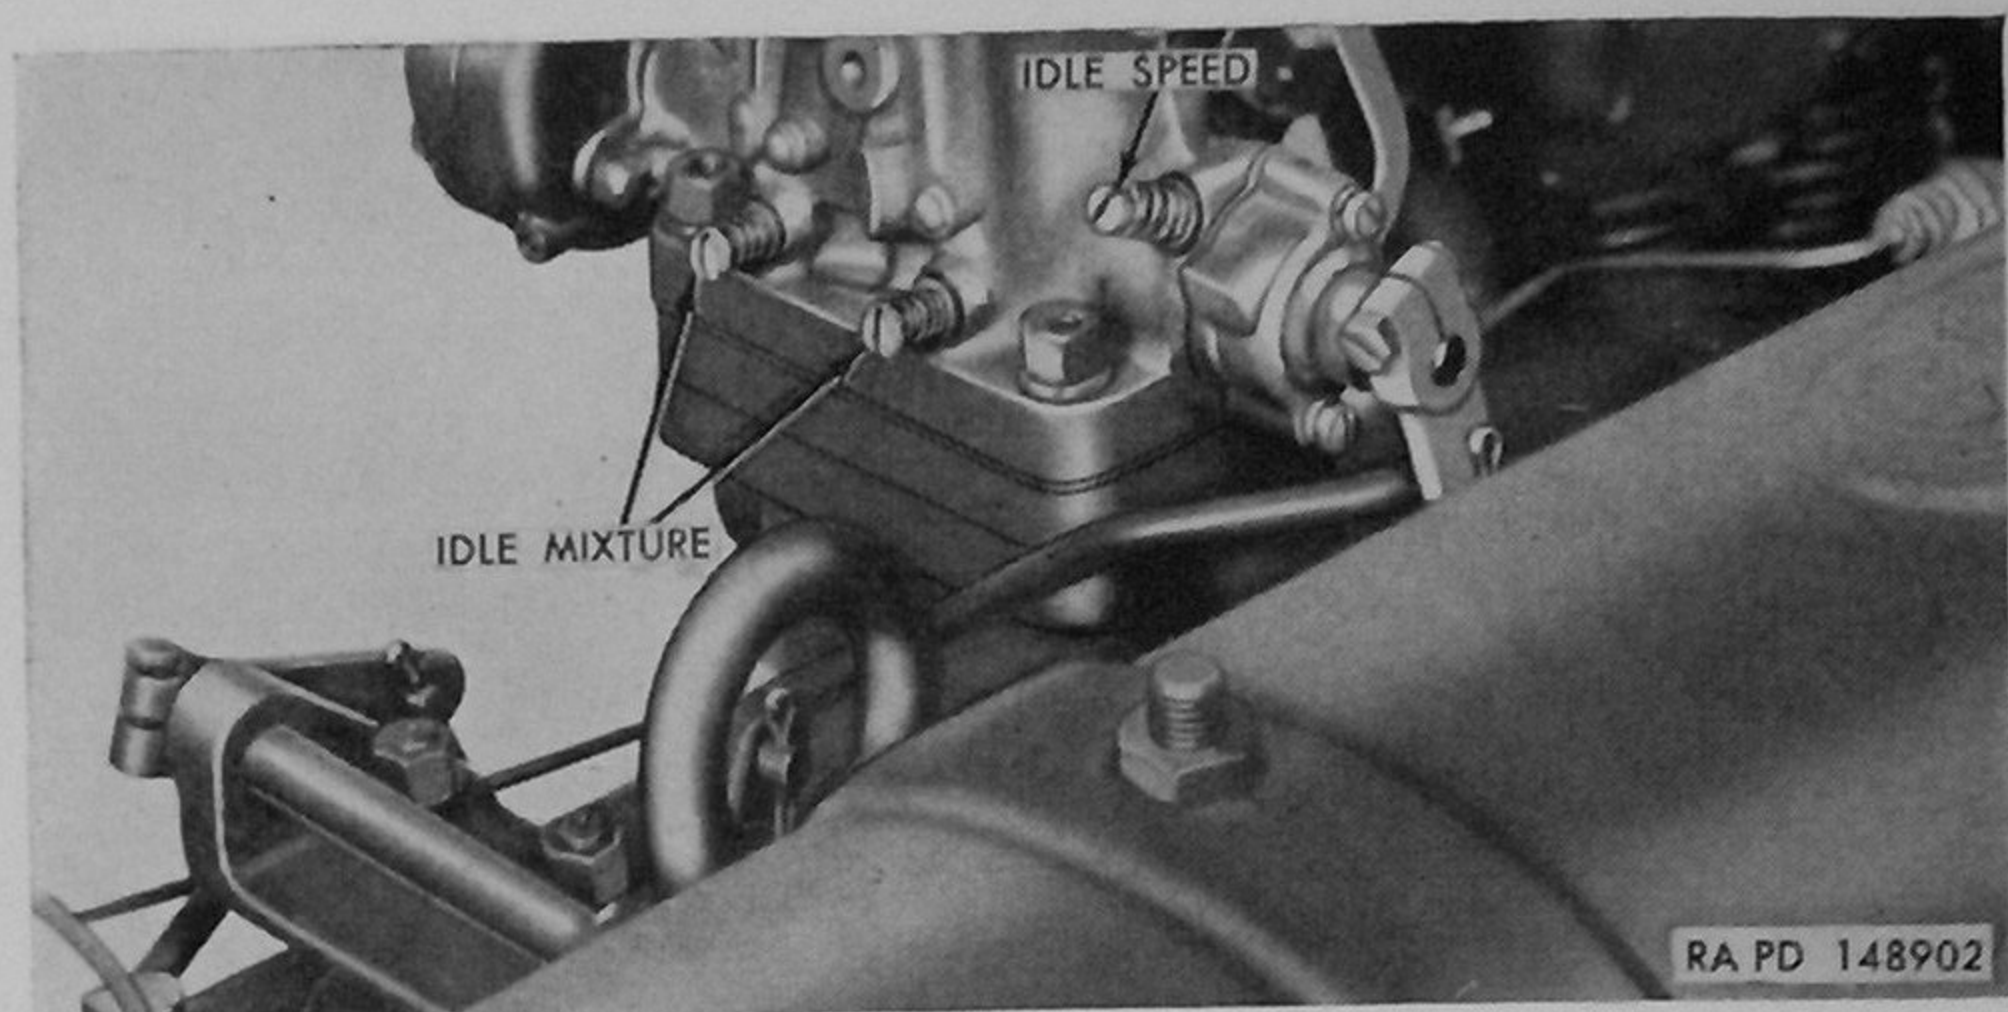
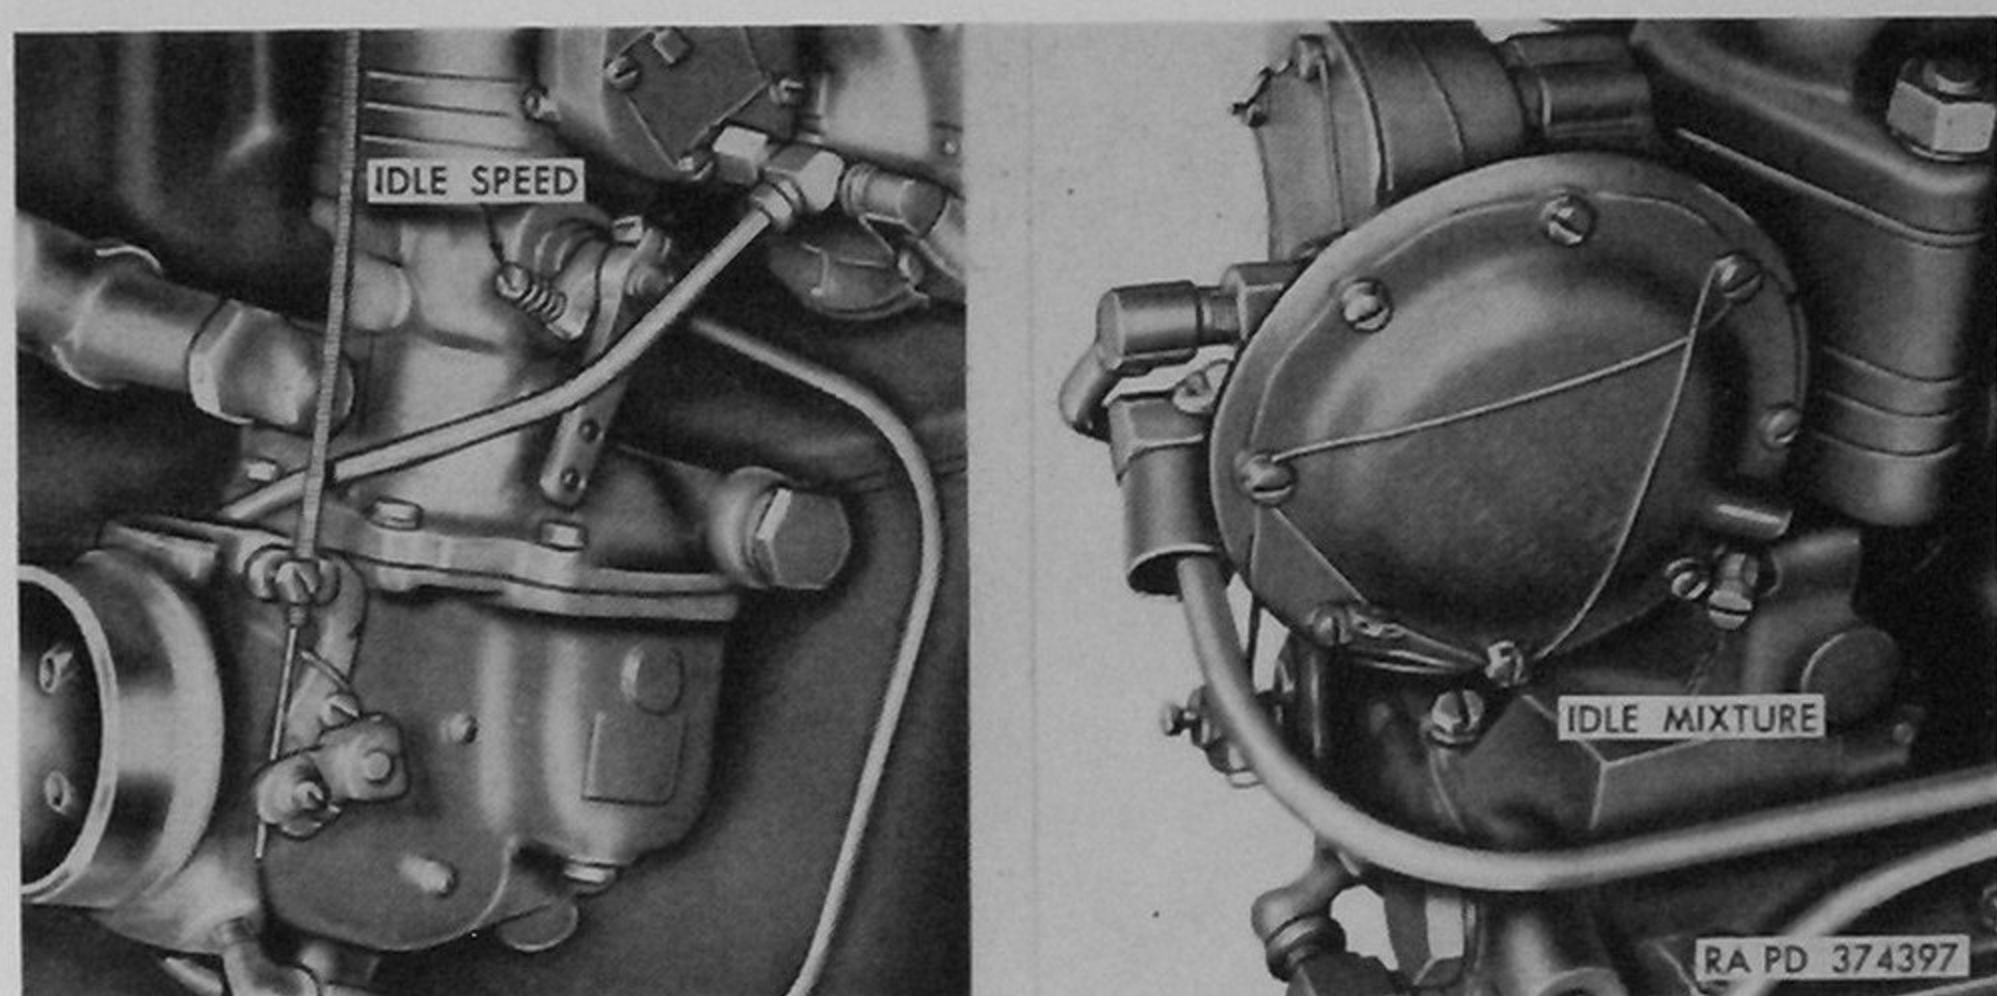

Figure 188. Location of carburetor idle speed and mixture adjusting screws—engine assemblies 7411599 and 8329440.
Figure 189. Location of carburetor idle speed and mixture adjusting screws—engine assembly 8726920.
d. *Carburetor Adjustment.* One idle speed or mixture (adjustment) screw (fig. 188 or 189) is provided at carburetor for setting idle speed. Idling mixture is adjusted by two screws (fig. 188) on engine assemblies 7411599 and 8329440 or by one screw (fig. 189) on engine assembly 8226920. Adjust in the following manner.
- (1) *Idling speed.* Turn idle speed (adjusting) screw until engine idles at 375 r.p.m.
- (2) *Idling mixture.*
- (a) *Engine assembly 7411599 or 8329440.* Turn idle mixture screws (fig. 188) one at a time to obtain highest reading on vacuum gage with steady indicator. Check idle speed on tachometer. Adjust idle speed if necessary ((1) above).
(b) *Engine assembly 8726920.* Turn idle mixture screw (fig. 189) to obtain highest reading on vacuum gage with steady indicator. Check idle speed on tachometer. Adjust idle speed if necessary ((1) above).